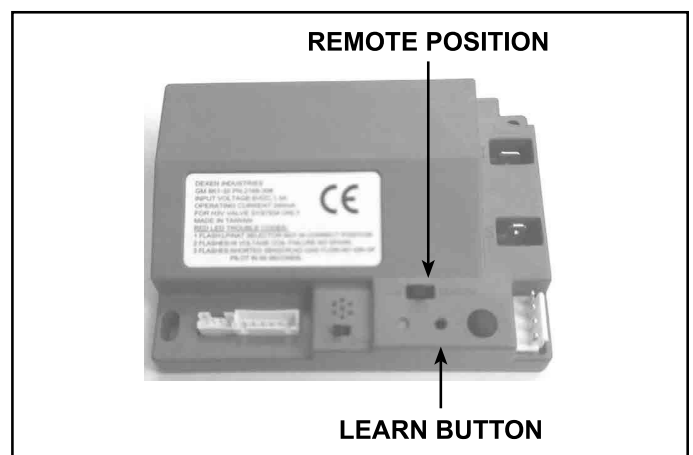

Figure 12.10 - Programming RC300AU
- Verify the ON/OFF/REMOTE switch is in the REMOTE position. Green LED light will blink three times and the control module will beep once 5 seconds later when ready. See Figure 12.10.
- Using a small item (such as a paper clip) press and release the LEARN button located near the ON/OFF/REMOTE switch. See Figure 12.10.